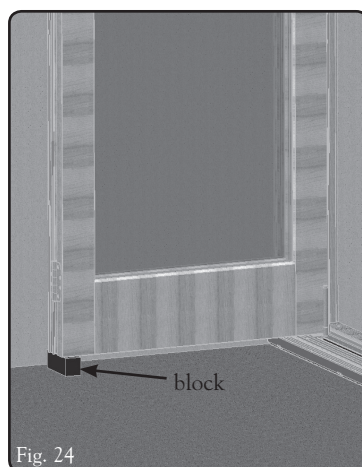

Fig. 24
- See Fig. 24. Use a block(s) to keep the panels balanced, level and straight with the finished floor **while installing the panels**.